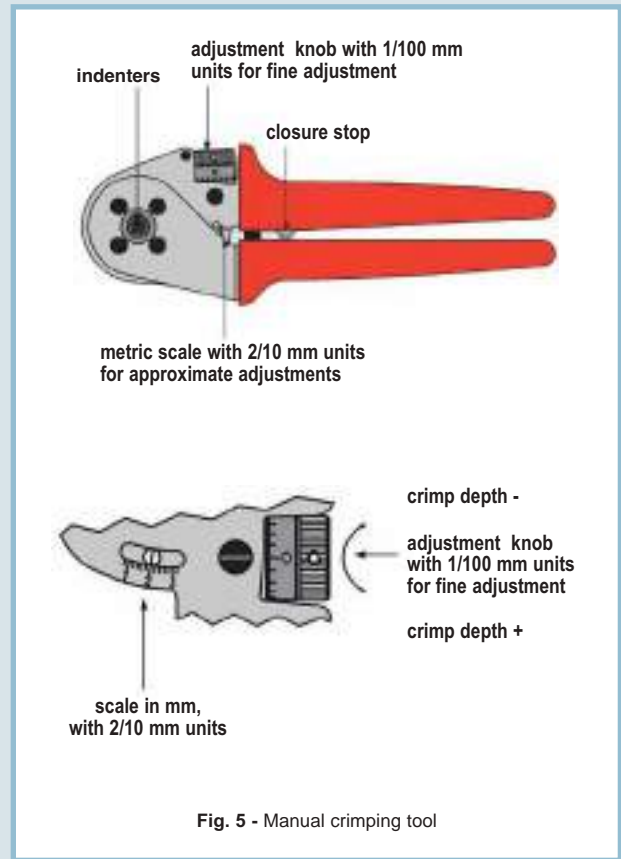

Fig. 5 - Manual crimping tool
- Insert the contact together with the fibre optic cable as far as possible into the crimping opening of the crimping tool (**CLPZ R**, see Figure 5) while applying gentle pressure to the fibre optic cable and connector, close the tool until you hear it disengages.